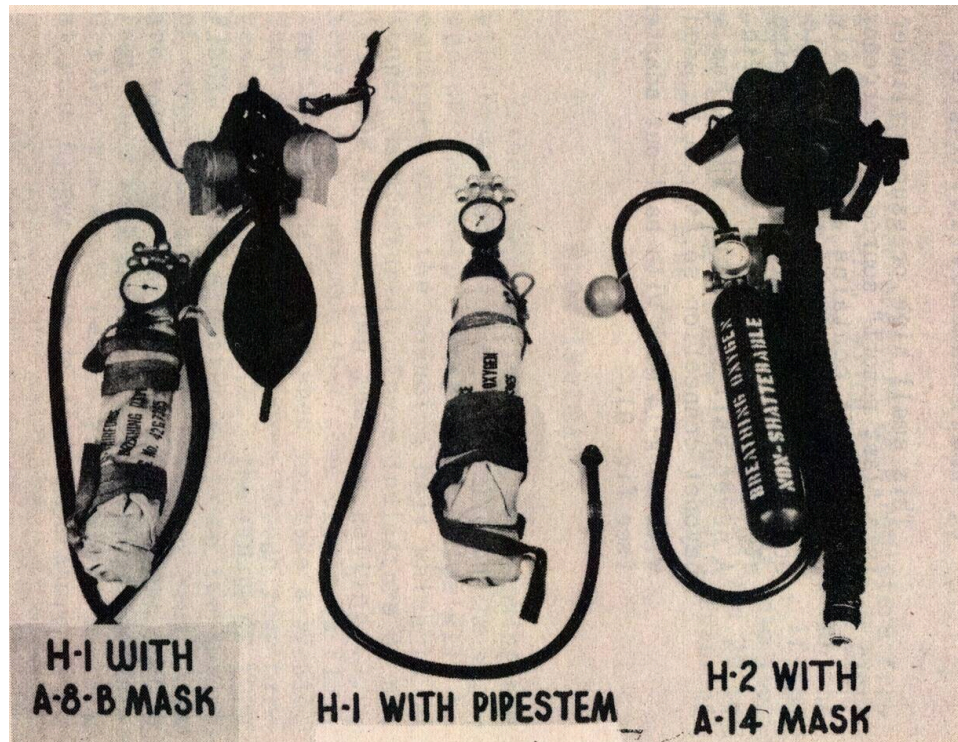

Fig. 8
b. Bail-out bottle. (Fig. 8)
This small high pressure cylinder is a "last resort" source of emergency oxygen. It contains approximately 12 minutes supply. The old style bottle (H-1) is equipped with a pipe stem which is held between the teeth. A newer bail-out bottle (H-2) has a bayonet connection so it can be used with an A-14 mask with bail-out adapter (see fig. 8).